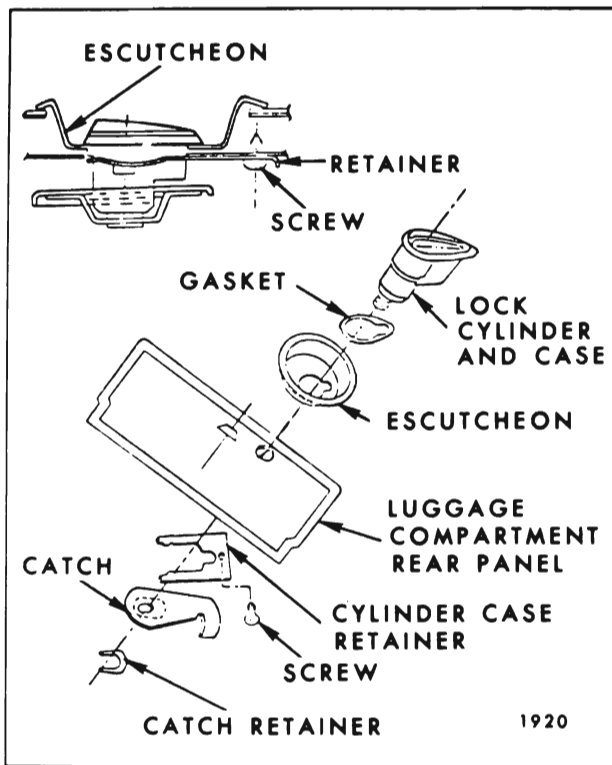

Fig. 15-60 — Luggage Compartment Lock Chevrolet "B" Styles
2. On underside of luggage compartment rear panel remove catch retainer and catch from lock cylinder case (Fig. 15-60); then turn lock cylinder with key until cylinder can be removed from case.
2. On underside of luggage compartment rear panel, remove catch retainer and catch (Fig. 15-60).
3. Remove lock cylinder case retainer screw and retainer (Fig. 15-60); then, remove lock cylinder and case, gasket and escutcheon from panel (Fig. 15-60).